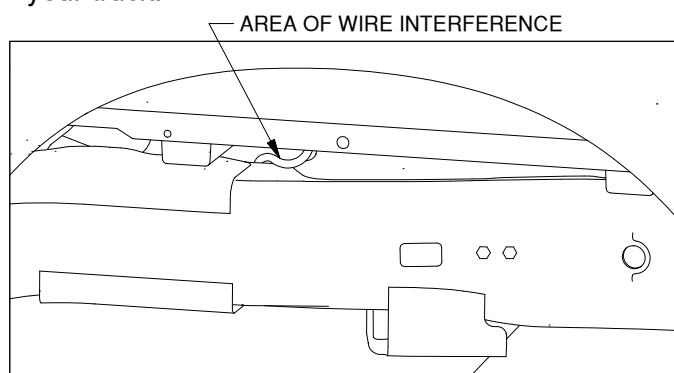

Figure D1: View looking into the driver side wheel well.
1. **Move wiring for handle install.** The handle may come into contact with part of the wiring harness running over the driver side of the frame, see Figure D1. Move the wire from this area of the frame by pulling the wiring down beside the frame in the inside of the truck. In some cases, fasteners may be present that will need to be pulled out of the frame. A wire tie may need to be used to keep the wire down out of the way of the handle. When correctly installed, no moving part of the handle should rub on any wires in your truck.